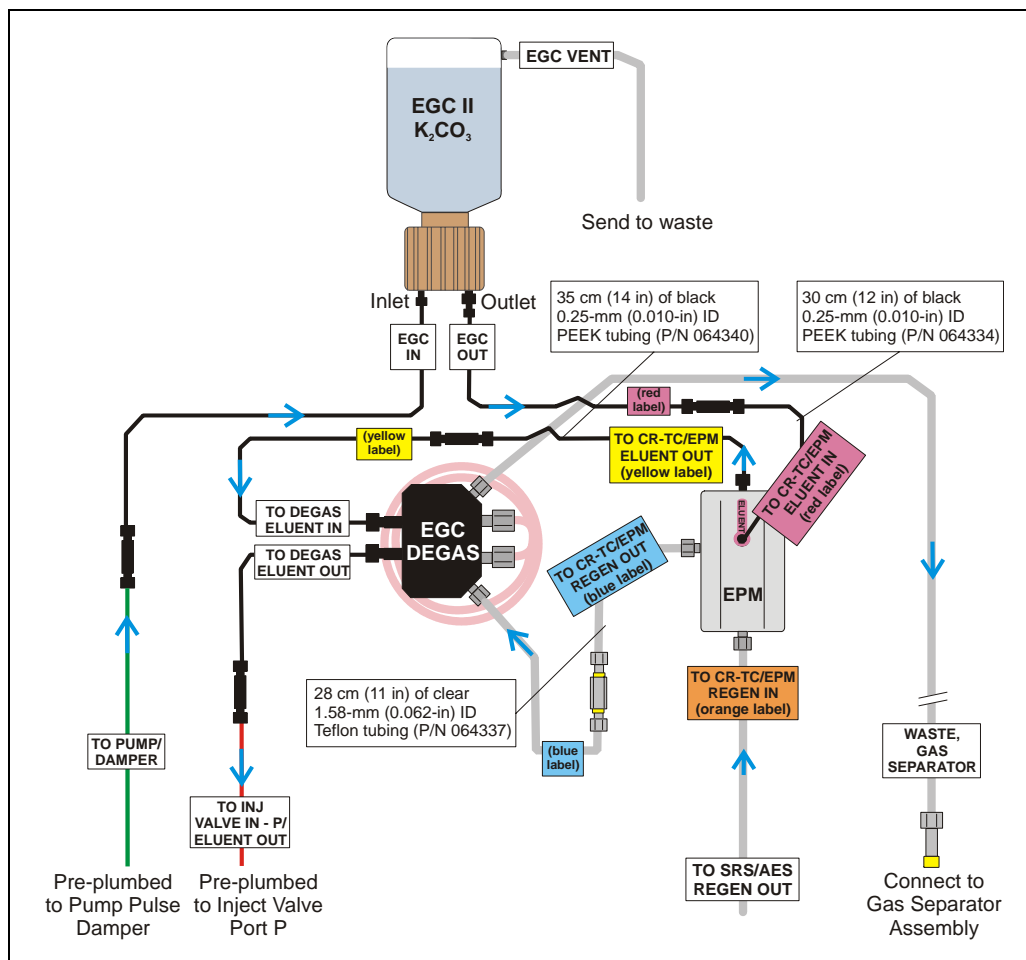

Figure B-63. EluGen Cartridge and EPM Plumbing with Tubing Extensions
- a. Disconnect the **TO CR-TC ELUENT IN** line (red label) from the coupler that connects it to the **TO CR-TC ELUENT OUT** line (yellow label). Connect a 32 to 10-32 coupler to the end of the **TO CR-TC ELUENT IN** line and connect the 30 cm (12 in) length of black PEEK tubing (red labels) (P/N 064334) to the coupler (see Figure B-63).
- Connect the **TO CR-TC/EPM ELUENT OUT** line (yellow label) to the **ELUENT OUT** port on the EPM (see Figure B-63).